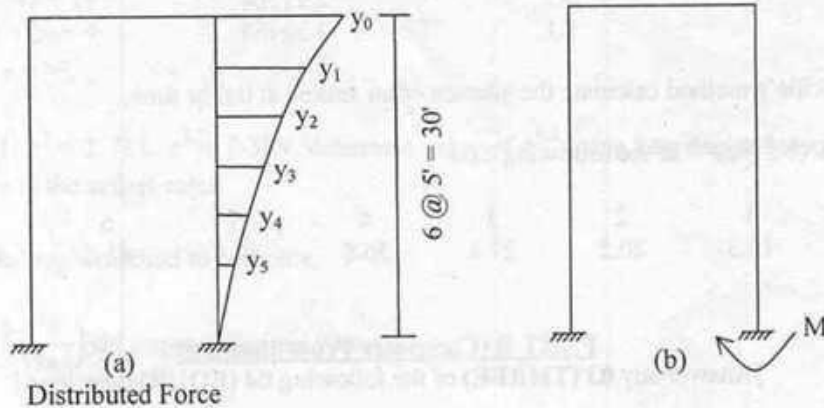

Figure 1
- (b) Figure 1(b) shows distribution of force due to wind load on a 30' tall building. The ordinates of the force diagram are given below. (5)